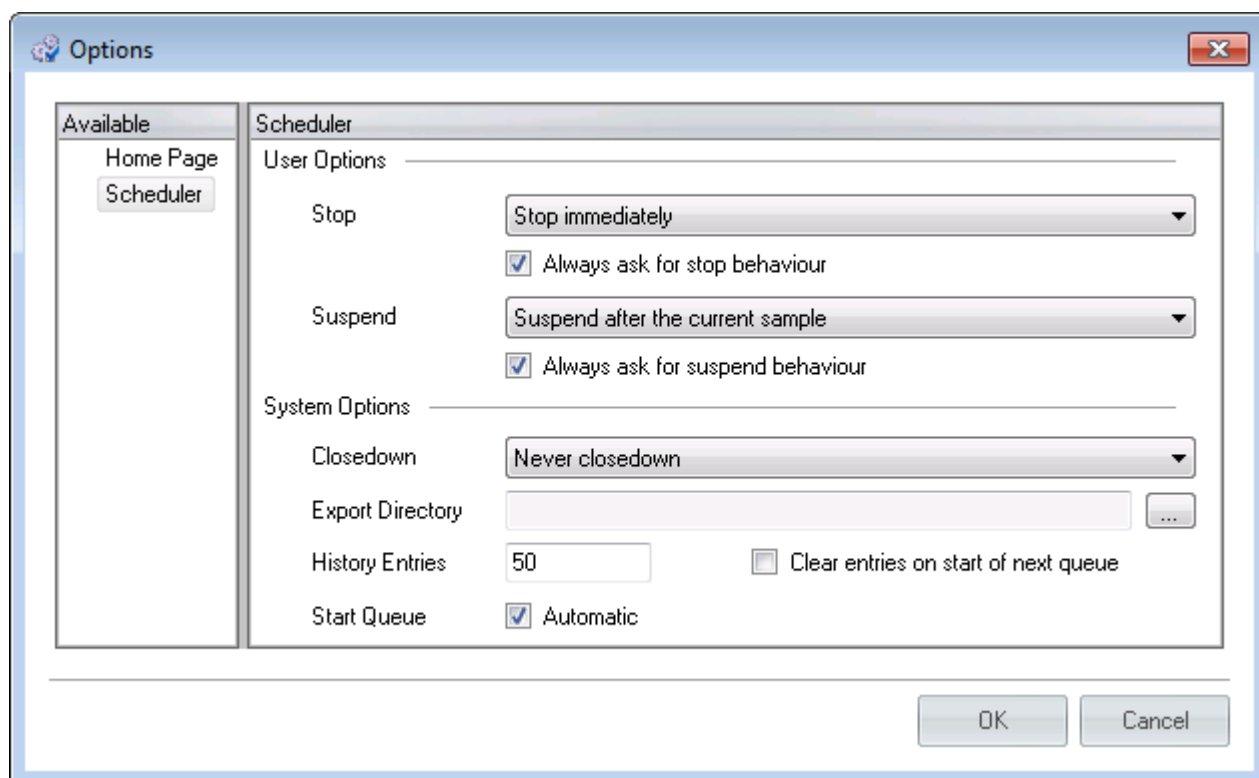

Figure 5-43. Scheduler settings in Options dialog of Help page
4. In the field **Available** on the left, select **Scheduler** to define the settings, see Figure 5-43.